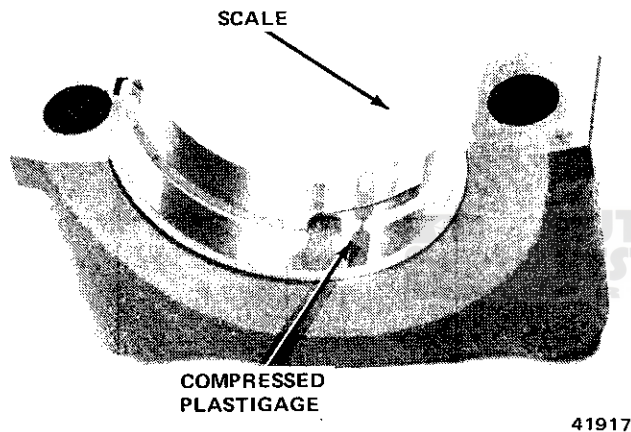

Fig. 1B-107 Checking Main Bearing Clearance with Plastigage
- (1) Support weight of crankshaft with jack placed under counterweight adjacent to main bearing being checked.
- (2) Remove main bearing cap and insert.
- (3) Wipe insert and exposed portion of crankshaft journal clean.
- (4) Place strip of Plastigage across full width of bearing insert.
(5) Install bearing cap and tighten retaining screws to 100 foot-pounds (136 N•m) torque.
(6) Remove bearing cap and determine amount of clearance by measuring width of compressed Plastigage with scale on Plastigage envelope. Correct clearance is 0.0017 to 0.0020 inch (0.043 mm to 0.051 mm) on No. 1 through No. 4 main bearings and 0.0025 to 0.003 inch (0.064 mm to 0.076 mm) for the rear main bearing (fig. 1B-107).